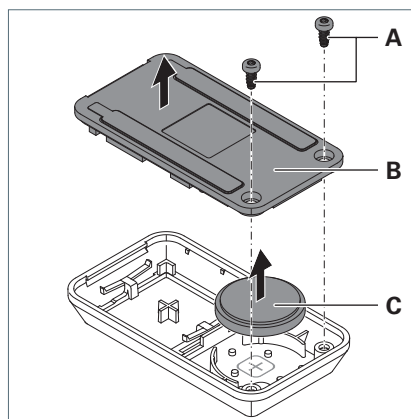

Fig. 33: Battery replacement.
- ▶ Unscrew the screws **A** from the rear panel **B** of the control element, see Fig. 33.